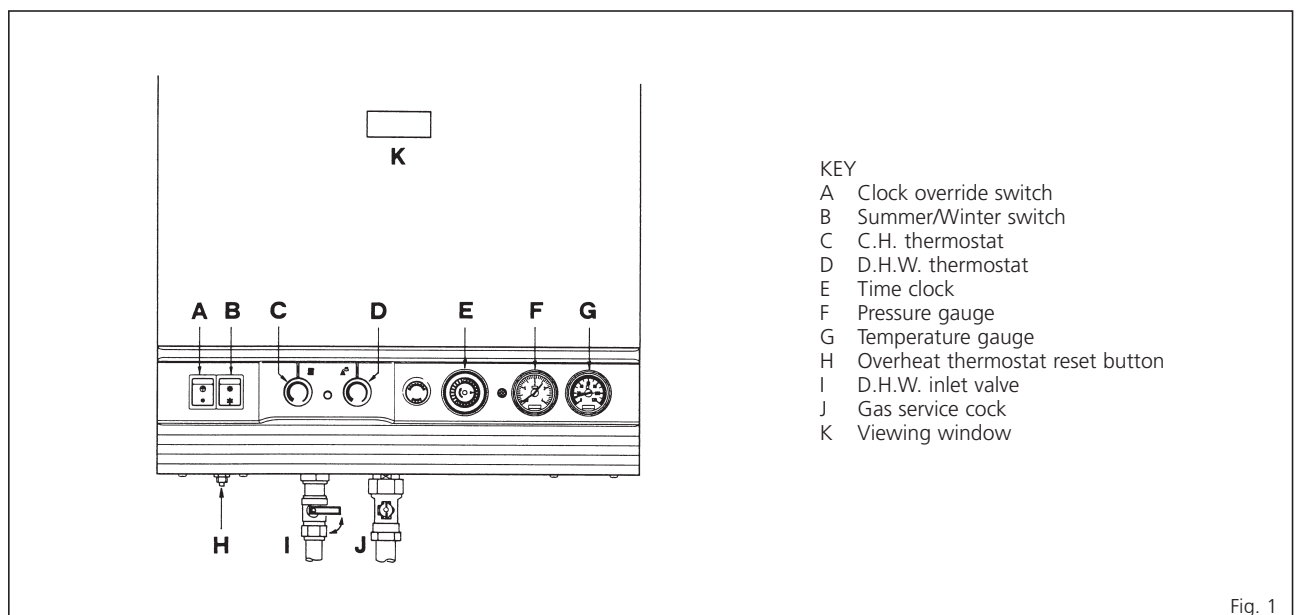

Fig. 1
### 1.3.1 To light the appliance (see fig. 1)
### 1.3.2 To turn the appliance off (see fig. 1)
If this occurs, allow the appliance to cool and press the overheat thermostat reset button (H fig. 1) once and light the boiler as described in section 1.3.1 above.
The gauges (G - F fig. 1) on the facia panel indicate the approximate system temperature and pressure. If the normal running pressure is seen to decrease over a period of time there is a water leak and you should consult your installer or service engineer.
**NOTE: an interruption in the electricity supply whilst the burner is alight may cause the overheat thermostat to operate. If this is suspected, depress the reset button (H fig. 1) once.**